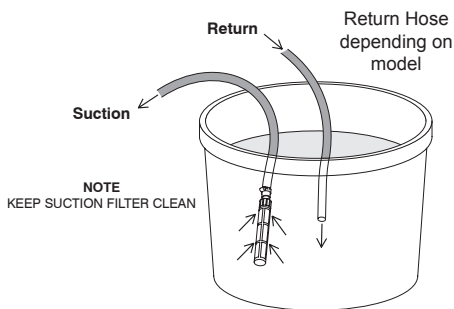

Fig 4. Submerge the suction hose.
- 5.5 Connect the water return line to its connector and place the other end in the water supply container. (Bypass to tank models only) (Fig 2 item 16 & Fig 4).
- 5.6 Submerge the opposite end of the suction hose and its suction filter in a suitable container containing the water supply (fig 4). Ensure the filter is always kept below the water level.